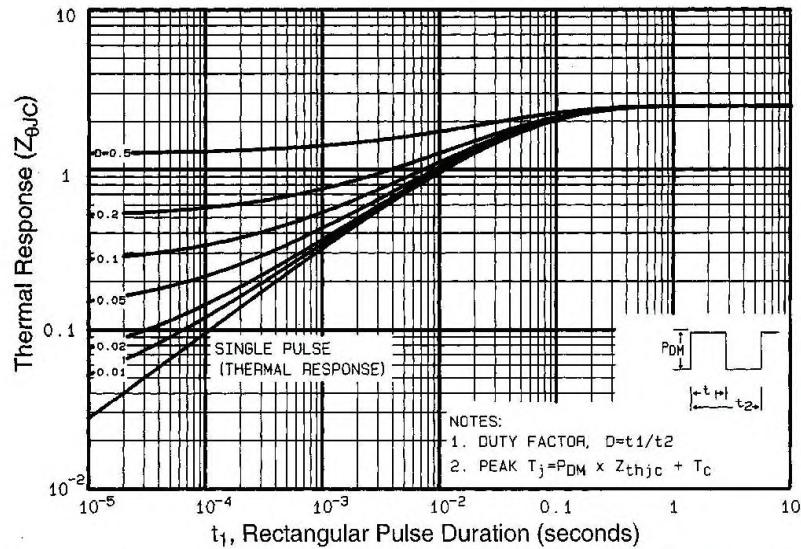

Fig. 11 - Maximum Effective Transient Thermal Impedance, Junction-to-Case
- a. Repetitive rating; pulse width limited by maximum junction temperature (see fig. 11).
a. Repetitive rating; pulse width limited by maximum junction temperature (see fig. 11).